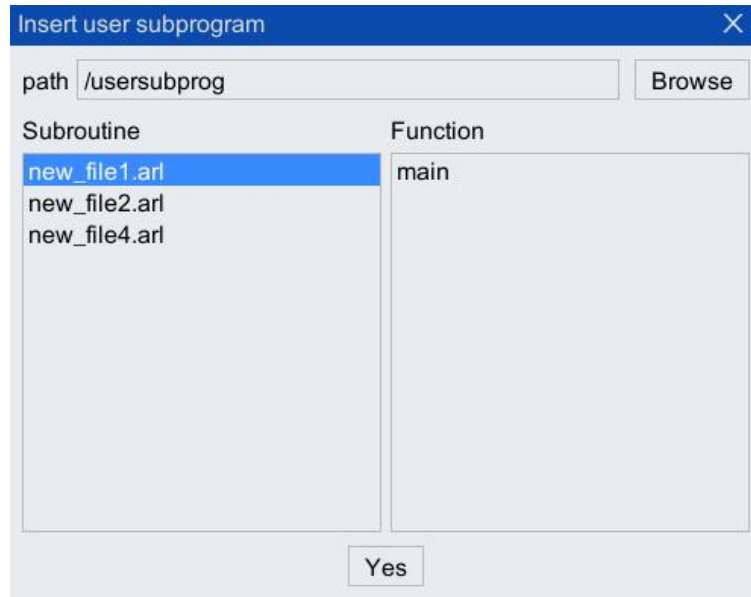

Figure 5-54 Subprogram is inserted along with its path
**Step3.** The programs that can be inserted under the folder (the program contains the subprograms that can be inserted) will be displayed in "Insert User Subprogram" interface, as shown in Figure 5-54.